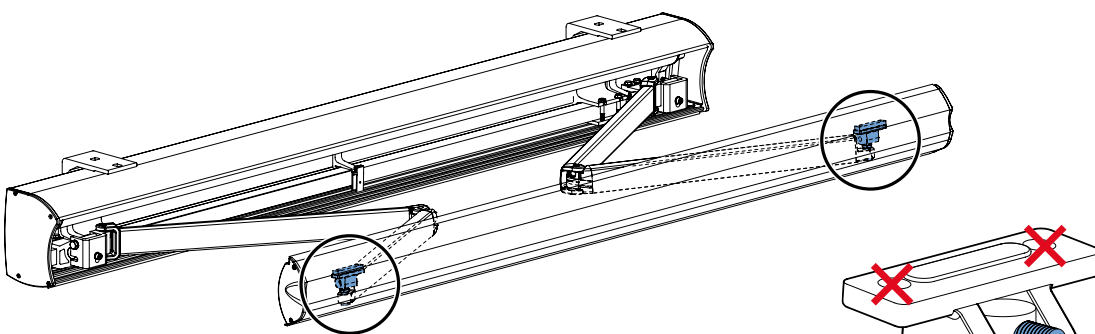

fig. 7.2 Location arm-connections
2. The arm-connections are located at the end of the folding arms (side of the front bar). See figure 7.2.